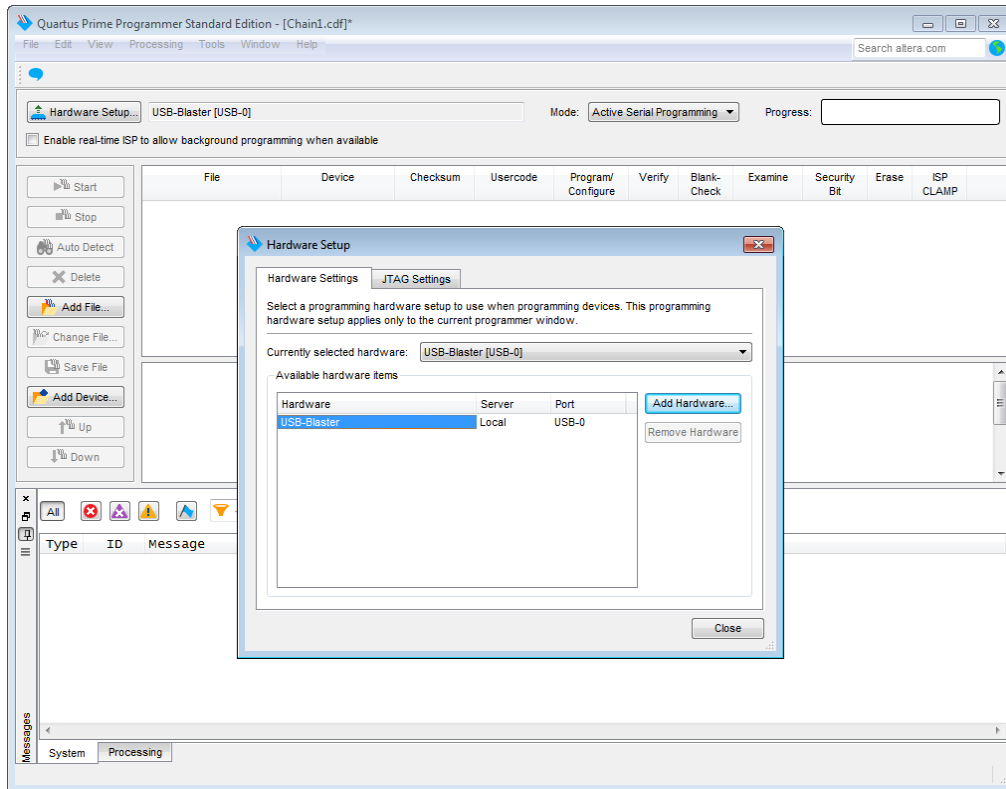

Figure 4 : Quartus – Detecting Hardware
3. In case no hardware is detected, clicking on “Hardware Setup”, located in the left-top corner, will open a new window, where a USB-Blaster hardware can be chosen. This operation described in Figure 4.